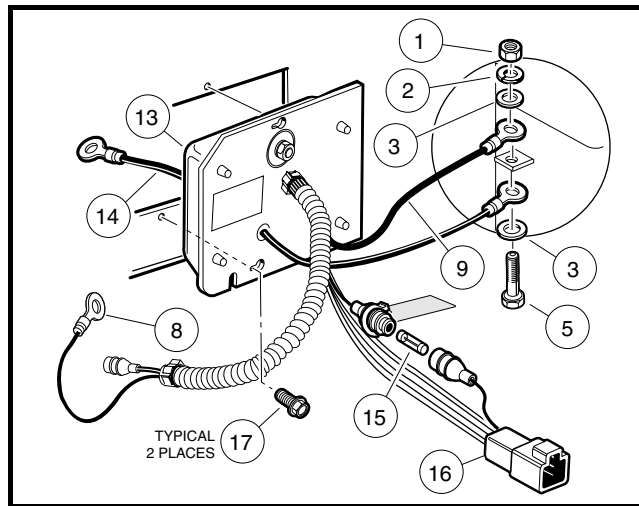

Figure 12-6 Onboard Computer
2. Remove rear body access door and unplug six pin connector (16) at OBC (**Figure 12-6, Page 12-8**).
3. Remove black 10 gauge and 6 gauge wires (9 and 14) from controller B- terminal (**Figure 12-6, Page 12-8**).
5. Disconnect the black 10 gauge wire (8) at the charger receptacle.
7. Loosen, do not remove, self tapping screws (17) holding OBC to component mounting plate (**Figure 12-6, Page 12-8**).
8. Slide OBC towards outside of vehicle and align heads of self tapping screws (17) with the two holes in the OBC face plate (**Figure 12-6, Page 12-8**). Pull OBC towards rear of vehicle and remove from component mounting plate.
3. Install OBC onto component mounting plate by aligning two holes on OBC face plate with two holes on component mounting plate. Slide OBC towards inside of vehicle and align heads of self tapping screws (17) with smaller part of two holes in OBC face plate (**Figure 12-6, Page 12-8**). Tighten screws to 60 in.lb (6.7 N-m).
5. Connect the black 10 gauge wire (8) to the charger receptacle.
7. Connect black 10 and 6 gauge wires (9 and 14) to controller B- terminal (**Figure 12-6, Page 12-8**).
8. Plug the six-pin connector (16) into the OBC (**Figure 12-6, Page 12-8**).